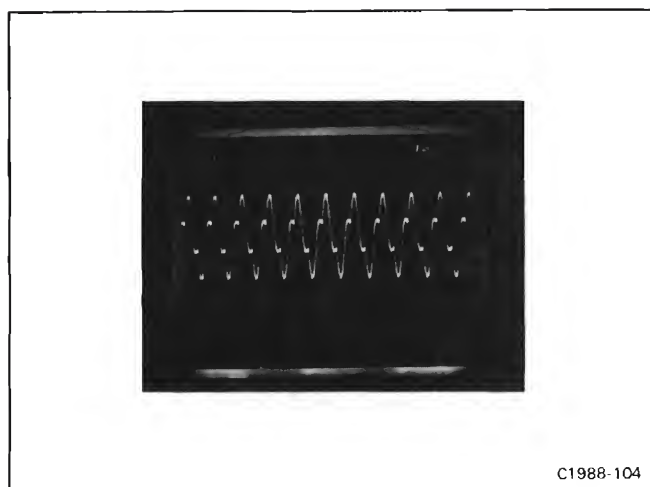

Figure 3-9. Current waveform at T30 for normal inverter operation at line voltage of 115 volts.
5. If a burst waveform was obtained in part 4 above, check for stable inverter operation when the line input voltage is increased to about 85 volts. Figure 3-9 shows the current waveform at T30 for normal inverter operation at a line source of 115 volts. (NOTE: The test oscilloscope horizontal sweep rate has been changed to about 50 microseconds/division for Fig. 3-9.)